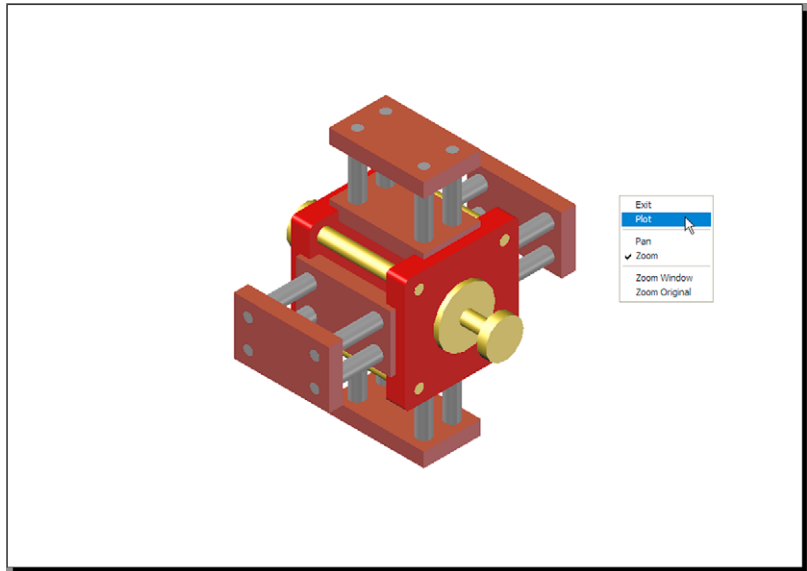

Fig. 15.36 First example – Print Preview – printing a single copy
First example – printing (Fig. 15.36)
3. *Click* the **Preview** button of the dialog and if the preview is OK (Fig. 15.36), *right-click* and in the right-click menu which appears, *click* **Plot**. The drawing plots producing the necessary ‘hardcopy’.